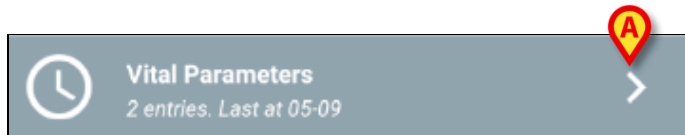
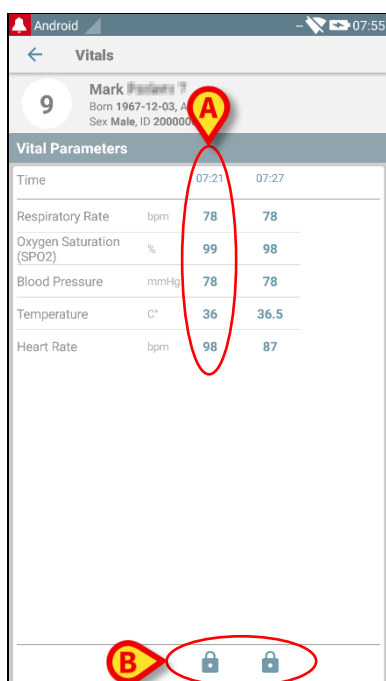
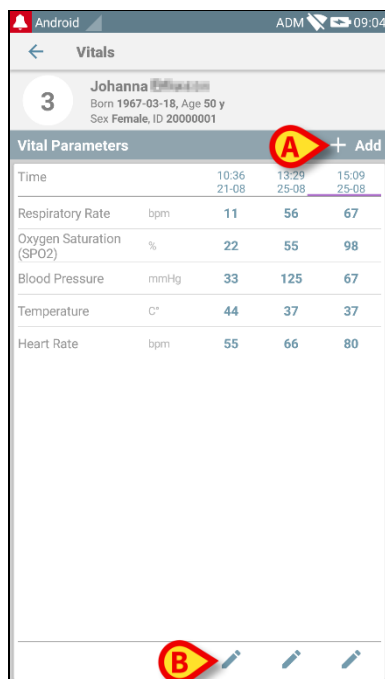

Fig 48
Fig 49
Fig 55
If the **+** button is not present on the tile it means that the dataset is not enabled (see paragraph 6.5 for more information). The tile is still displayed because past data exists for that dataset, which can be still viewed. See for instance Fig 48.
The arrow (Fig 48 **A**) makes it possible to display the past data. See for example Fig 49.
For each entry (i.e. a set of values), date and time are displayed on top. The recorded values are displayed below. See for instance the column indicated in Fig 49 **A**.
The “lock” icon indicated in Fig 49 **B** means that the corresponding score cannot be edited. Otherwise a “pen” icon is displayed (see for instance Fig 55).
The recorded sets of values are displayed in a specific summary screen. Again, the screen features depend on the kind of dataset acquired. See Fig 55 for an example.
- On this screen, touch **Add** to add another set of data (Fig 55 **A**).
- Use the “Pen” icon to edit the data of an existing set (Fig 55 **B**).